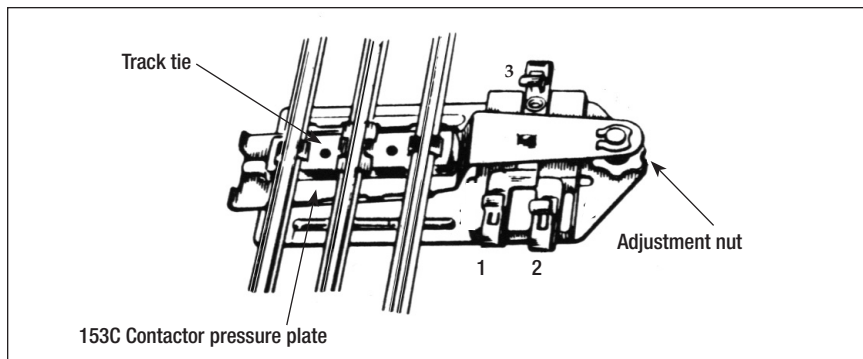

Figure 1. 153C Contactor
The 153C Contactor is activated by the weight of a passing train. Place the Contactor under any O or O-27 gauge track section, as shown in Figure 1.
2. Turn the adjustment nut either up or down until the accessory's lights flash and the gate drops. Refer to Figure 1 for the location of the adjustment nut.